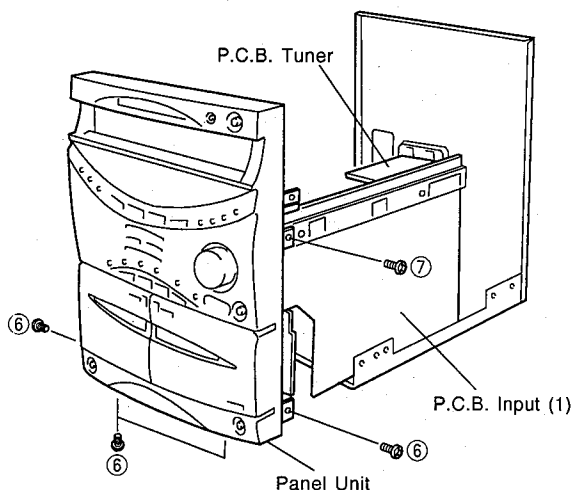

Fig. 6
- Remove 4 screws (⑥) and then remove the Panel Unit (with the Input P.C.B. / Tuner P.C.B. attached) in Fig. 6.
- If necessary, remove a screw (⑦) and then remove the Input P.C.B. / Tuner P.C.B. in Fig. 6.
4. Check and Part Replacement of Main P.C.B. (1)
- Install the Input P.C.B. / Tuner P.C.B. to the Panel Unit in advance. (Fix them with a screw (⑦) in Fig. 6.)